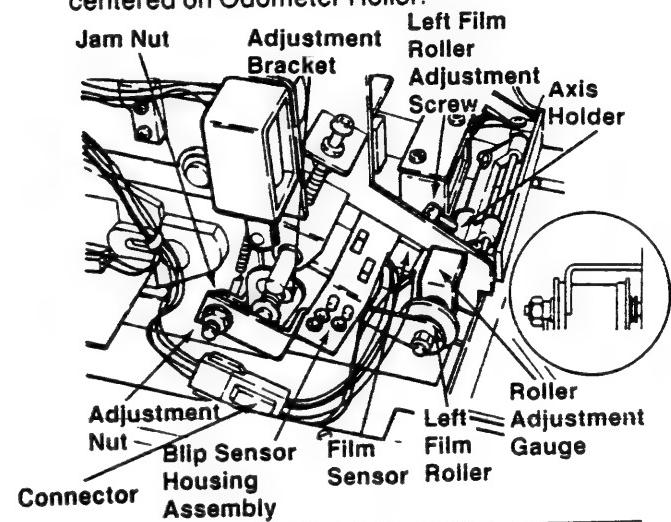

Figure 2-3.D
16. Loosely install the second M4 x 0.7 mm Jam Nut (Item 21) on the outside of the Blip Sensor Assembly (Figure 2-3.D) and move the Adjustment Nut to the front or rear as required so that the Blip Sensor Assembly and frame of the M-654 are parallel (Figure 2-3.E see next page) and Film Guide is centered on Odometer Roller.
17. Tighten the Jam Nut against the bracket of the Blip Sensor Assembly and Adjustment Nut (Figure 2-3.D).